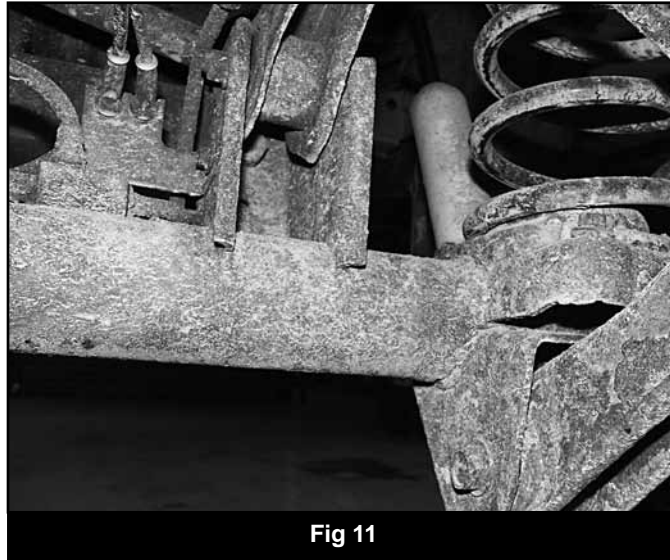

Fig 11
62. Remove retaining bracket holding ABS wires to axle. (Fig 11)